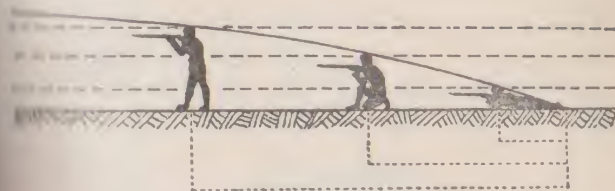

FIG. 5.
- (b) The higher the object fired at (Fig. 5).